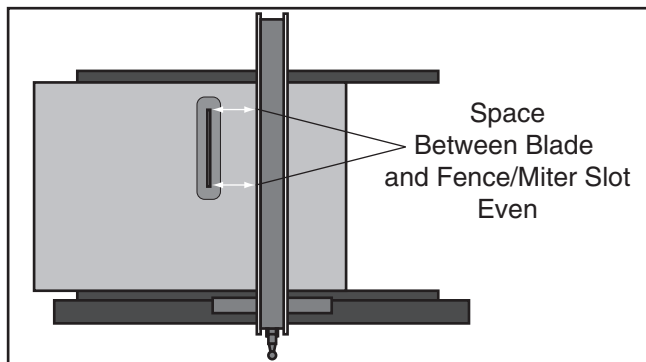

Figure 120. Example of fence aligned parallel to miter slot.
6. Rotate the blade to the other end of the table insert (**Figure 120**), and recheck the distance between the fence and the blade to ensure they are parallel.